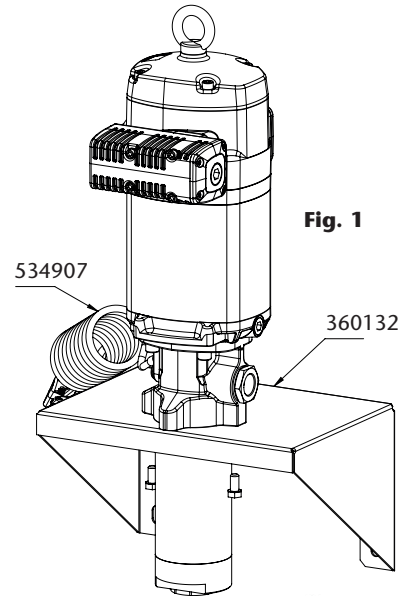

Fig. 1
- Wall mounting (360132). Mount the wall bracket to the wall securely. Insert the pump through the wall bracket and attach it with screws (Fig. 1).